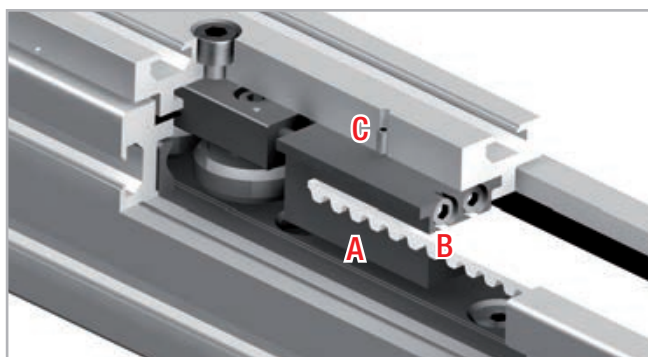

Fig. 65
1. Unscrew the safety screws C (on top of the slider plate) from the belt tensioning device A (see fig. 65).